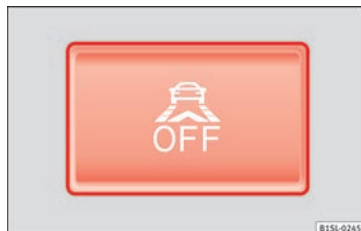

Fig. 155 In the lower part of the centre console: Button for the City Safety Assist function.
The City Safety Assist function has been switched on manually using the  OFF button »» Fig. 155.	The control lamp turns off after about 5 seconds.
Within the operating area of 5-30 km/h (3-19 mph): the City Safety Assist function has been switched off manually using the  OFF button »» Fig. 155.	Switch on the City Safety Assist function manually using the  OFF button »» Fig. 155.
- Press the »» **Fig. 155** button on the centre console.